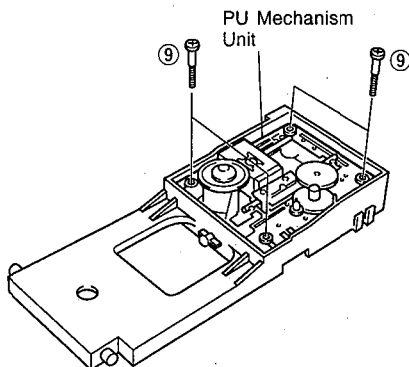

Fig. 5
- b. Pull out 4 Pins (9) and then remove the PU Mechanism Unit as shown in Fig. 5.